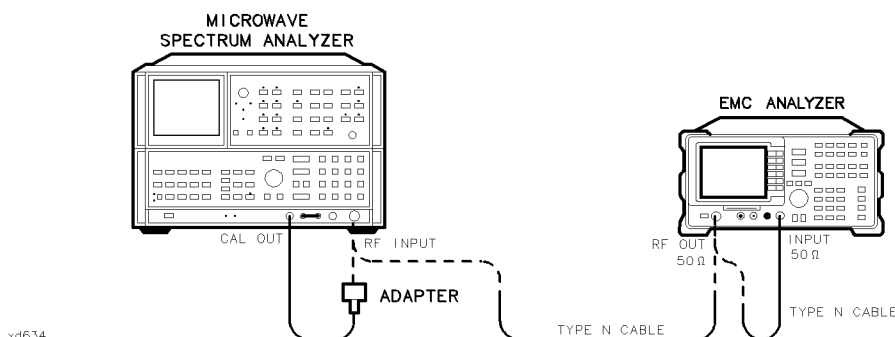

Figure 2-82.
2. Connect the Type N cable between the RF OUT 50 Ω and INPUT 50 Ω connectors on the EMC analyzer. See Figure 2-82.
4. Connect the Type N cable from the tracking generator output to the microwave spectrum analyzer RF INPUT as shown in Figure 2-82.